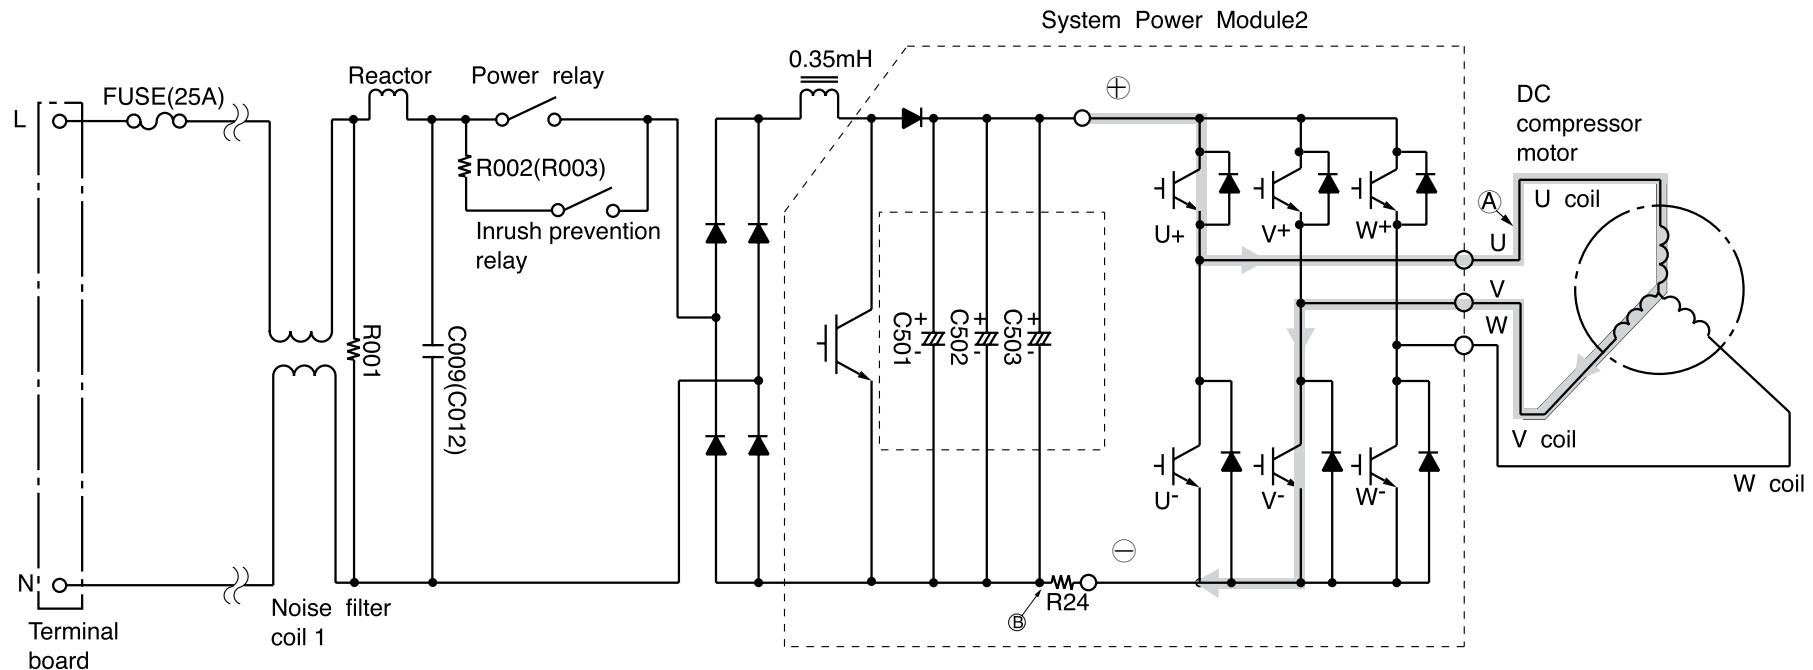
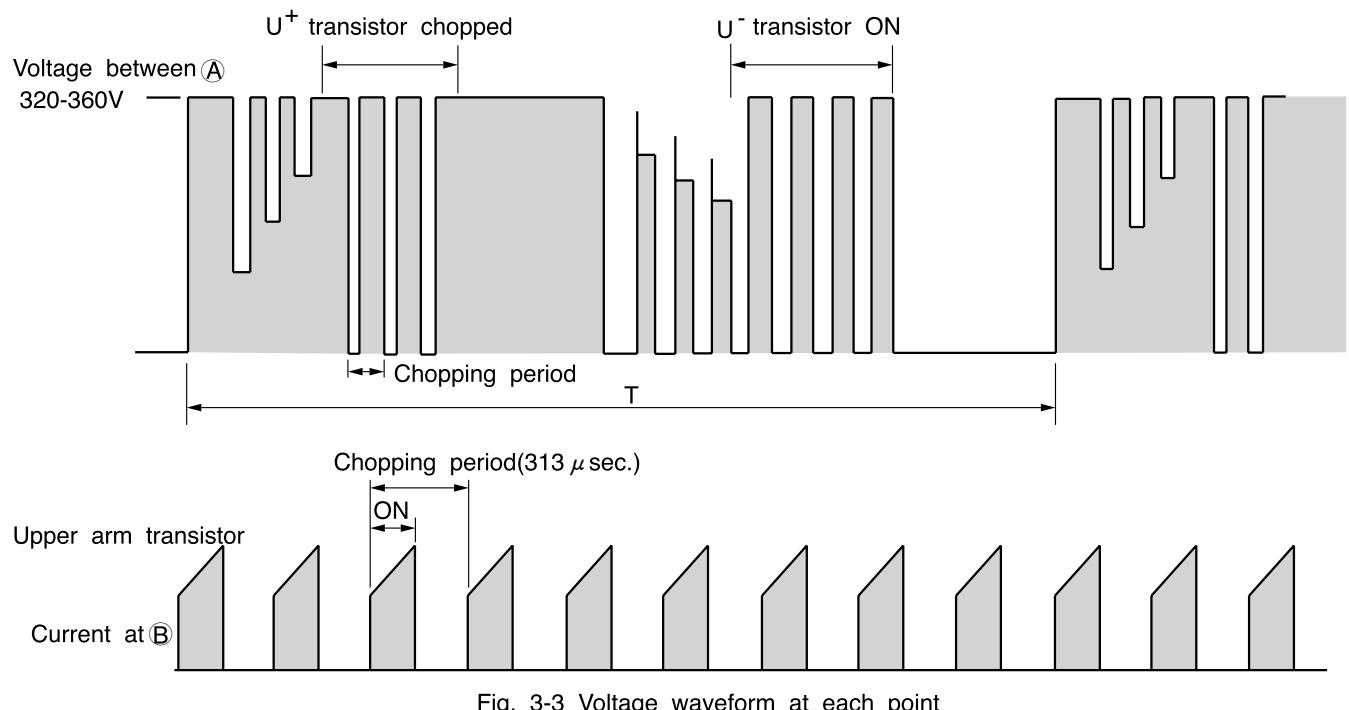

Fig. 3-1 Power module circuit ( $U^+$  is ON,  $V^-$  is ON)
Fig. 3-3 Voltage waveform at each point
- Fig. 3-1 shows the power module and its peripheral circuit. The three transistors on the positive  $\oplus$  side are called the upper arm, and the three transistors on the negative  $\ominus$  side, the lower arm.
- RAM-70QH4 and RAM-80QH4 have two power module circuits as shown in Fig. 3-1 because of providing for two cycles and two compressors style.
[ At point E:  $U^+$  is ON,  $V^-$  is ON (circuit in Fig. 3-1)
- Fig. 3-3 shows voltage waveform at each point shown in Fig. 3-1 and 3-4. First half of upper arm is chopper, second half is ON, and first half of lower arm is chopper, second half is ON.
- When power is supplied  $U^+ \rightarrow U^-$ , because of that  $U^+$  is chopped, current flows as shown below; ②
- When  $U^+$  transistor is ON:  $U^+$  transistor → U coil → V coil →  $V^-$  transistor → DC current detection resistor → Point ② (Fig. 3-1)
- Since current flows at point ④ only when  $U^+$  transistor is ON, the current waveform at point ④ becomes intermittent waveform as shown in Fig. 3-3. Since current at point ④ is approximately proportional to the input current of the air conditioner, input current is controlled by using DC current (Id) detection resistor.